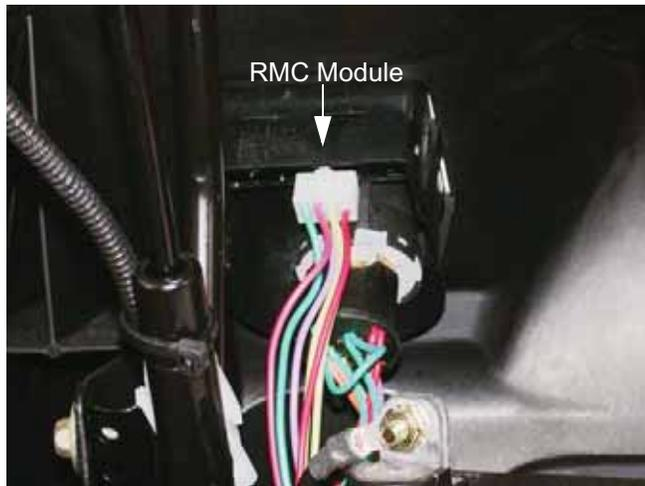

Figure 7.3
- 2e. The RMC Module is in the same housing as the key switch, and is not available separately. For the purpose of diagnosis it is treated separately. Diagnosis of the module with the key switch introduces too many over-lapping variables. See Figure 7.3.